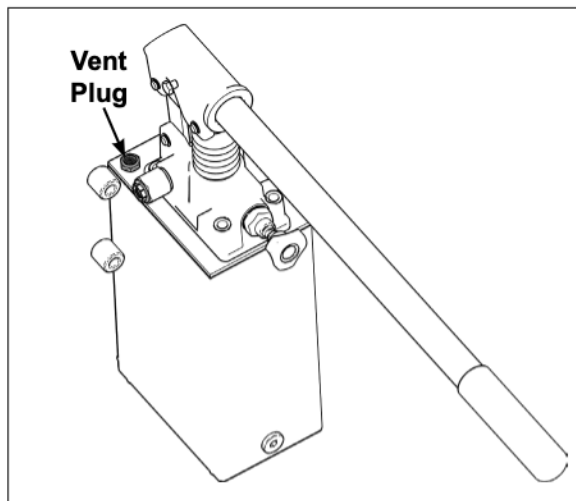

Figure 4 - Remove vent plug to add hydraulic fluid.
1. Remove vent plug located near top left corner of hydraulic hand pump (see **Figure 4**).